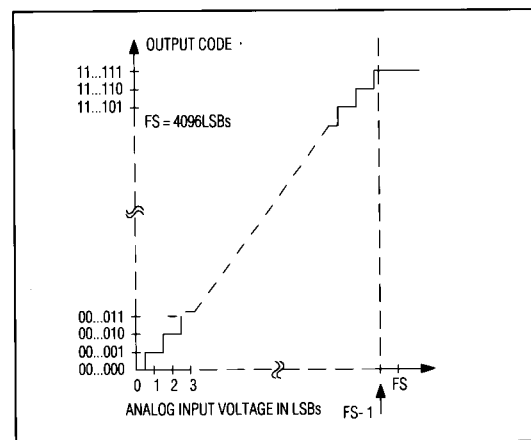

Figure 17. MX7672 Ideal Unipolar Transfer Function
Figure 17 shows the nominal input/output transfer function of the MX7672. Code transitions occur halfway between successive integer LSB values. The output coding is binary with 1LSB = Full Scale (FS)/4096. FS is either +5V or +10V, based on the analog input configurations.